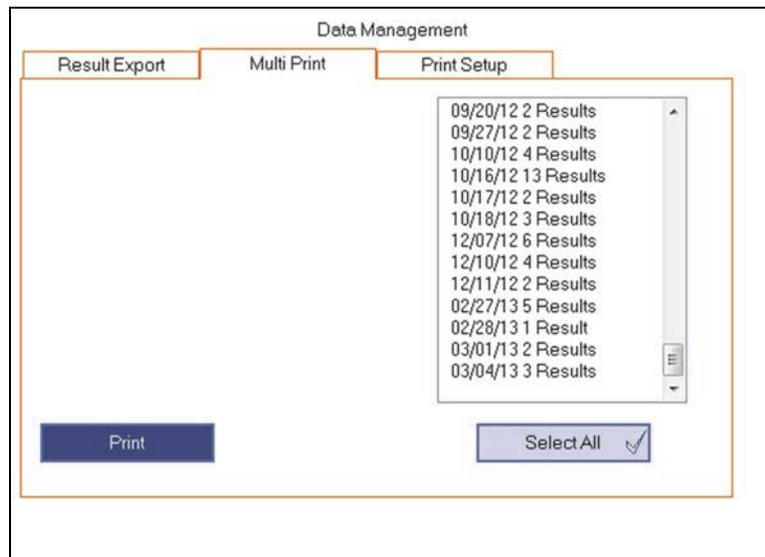

Figure 1-36 The Multi Print tab
1. Click the **Multi Print** tab (see Figure 1-36 on page 30).